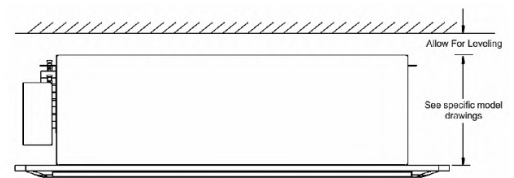

Figure 1
6. Check the distance between the upper slab and finished ceiling to ensure the unit has adequate space for installation. See Figure 1